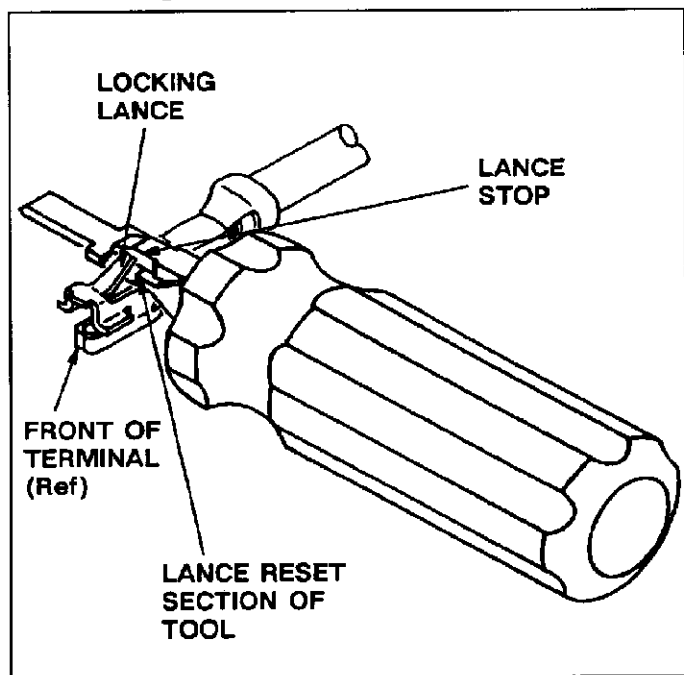

Fig. 3
5. If extracted terminal is to be re-used, locking lance must be reset using the lance reset section on the tool tip. See Figure 3.
6. Hold tool perpendicular to the terminal assembly and slide the lance reset section of tool under the locking lance. Push the tool tip toward the front of the terminal until the locking lance butts against the lance stop. See Figure 3.